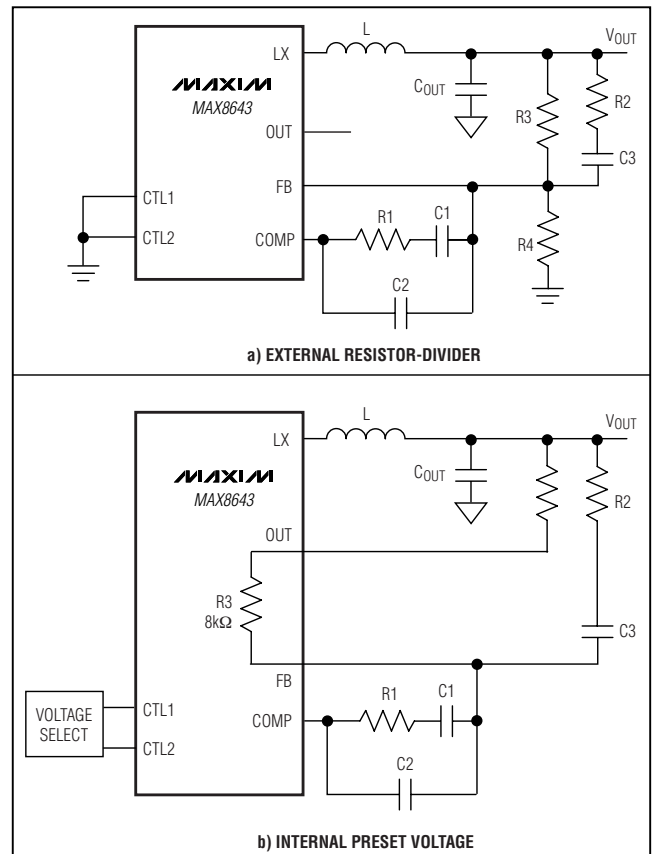
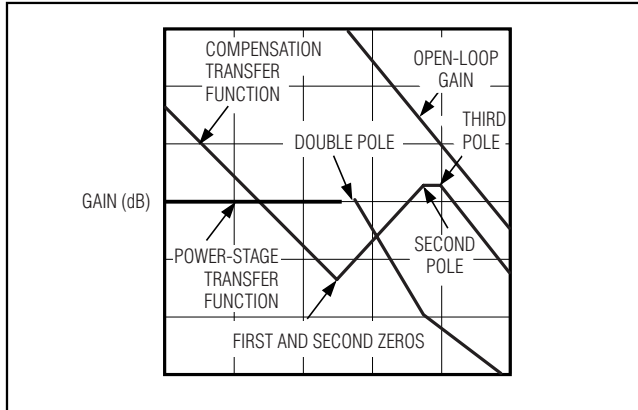

Figure 3. Type III Compensation Network
Figure 4. Type III Compensation Illustration
The high switching frequency range of the MAX8643 allows the use of ceramic output capacitors. Since the ESR of ceramic capacitors is typically very low, the frequency of the associated transfer function zero is higher than the unity-gain crossover frequency, f_c , and the zero cannot be used to compensate for the double pole created by the output filtering inductor and capacitor. The double pole produces a gain drop of 40dB/decade and a phase shift of 180°/decade. The error amplifier must compensate for this gain drop and phase shift to achieve a stable high-bandwidth closed-loop system. Therefore, use type III compensation as shown in Figure 3 and Figure 4. Type III compensation possesses three poles and two zeros with the first pole, f_{P1_EA} , located at zero frequency (DC). Locations of other poles and zeros of the type III compensation are given by: